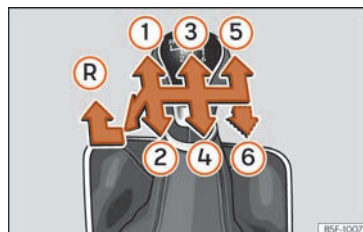

Fig. 151 Gear shift pattern of a 5 or 6-speed manual gearbox.
The position of the gears is indicated on the gearbox lever »» **Fig. 151**.
»» Fig. 151 (R).